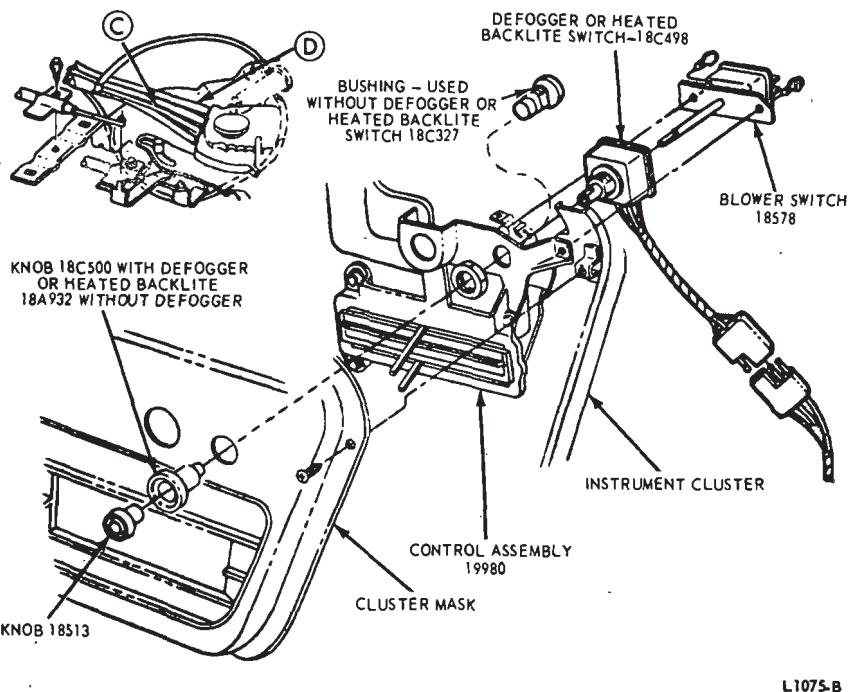

FIG. 31—Control Assembly—Ford and Meteor
- Remove the nut retaining the defogger or heated backlite switch to the heater or heater-A/C control assembly (Fig. 31). Disconnect the wire connector and remove the switch.
- Remove two switch attaching screws and remove the blower switch (Fig. 31).
- Remove two screws attaching the heater or heater-A/C blower switch to the heater or heater-A/C control assembly, and remove the switch (Fig. 31).